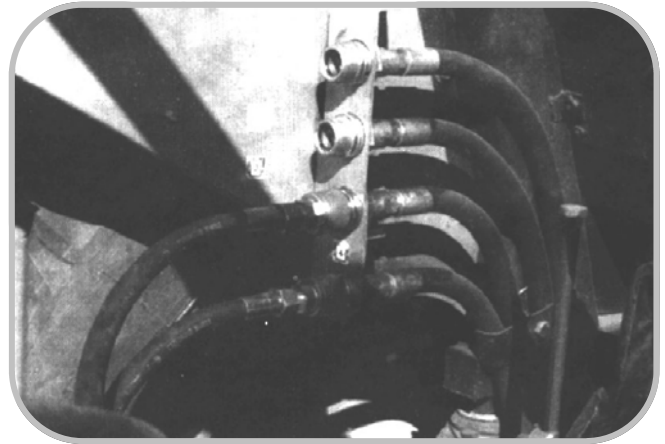

Fig. 9 Installation of hydraulic hoses to the tractor.
- insert the plugs of the quick disconnect couplings of the hydraulic hoses into the valve sockets of the tractor hydraulic system (Fig. 9),